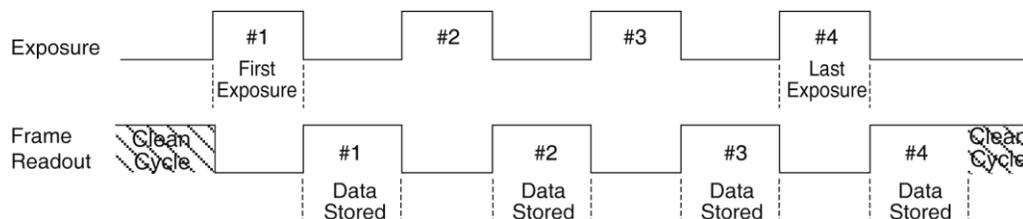

Figure 21. Clean Cycles Timing Diagram
The basic cleaning function is implemented by clean cycles. These cycles start when you turn the camera on and a clean pattern is programmed into the camera. Their purpose is to remove charge that accumulates on the array while the camera not acquiring data (i.e., exposing and reading out the array). Figure 21 is a timing diagram for an experiment set up to acquire four (4) images in Freerun timing mode. In this diagram clean cycles occur before the first exposure and after the last readout period.